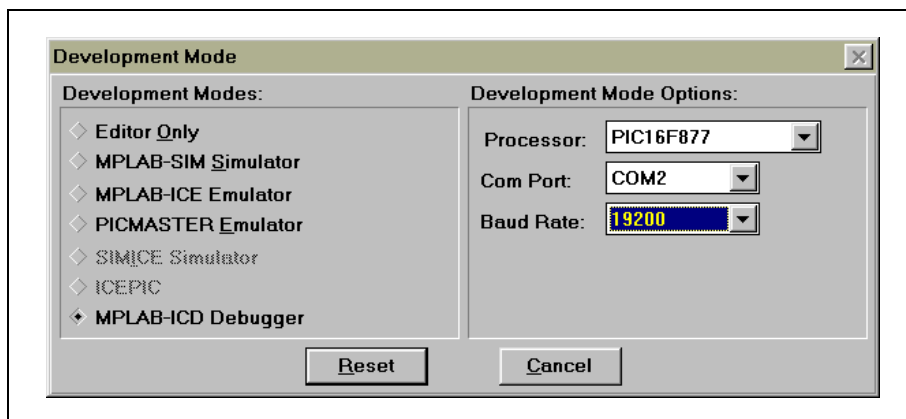

Figure 3.1: Development Mode Dialog Box
6. Select the Options > Development Mode menu item to open the Development Mode dialog (Figure 3.1).